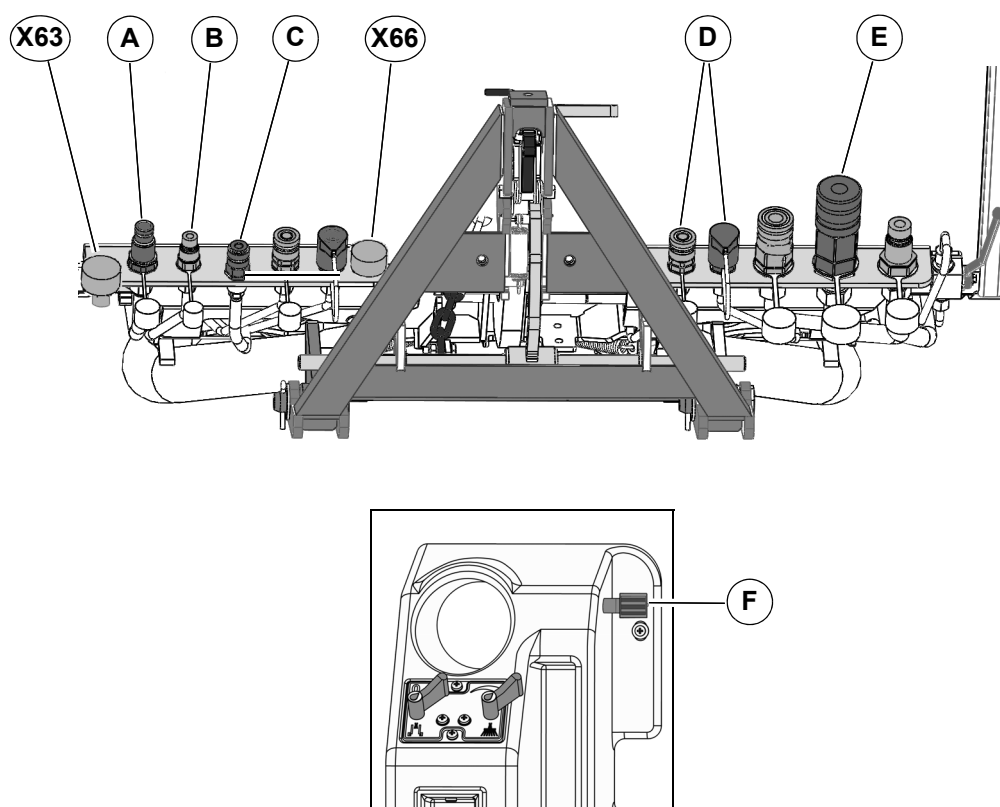

Fig. 124:
For the 3-brush system, the front tool carrier must be fixed in the upper end position. After mounting, move the front tool carrier to the upper end position and close the lowering valve **Fig. 124-F**.
- Supply control unit 3-brush system = **Fig. 124-A**
- LS for control unit 3-brush system = **Fig. 124-B**
- Water connection for spray nozzles = **Fig. 124-C**
- Actuator – supply/return = **Fig. 124-D**
- Return control unit 3-brush system = **Fig. 124-E**
- 9-pin plug = **Fig. 124-X66**
- 19-pin coding plug = **Fig. 124-X63**